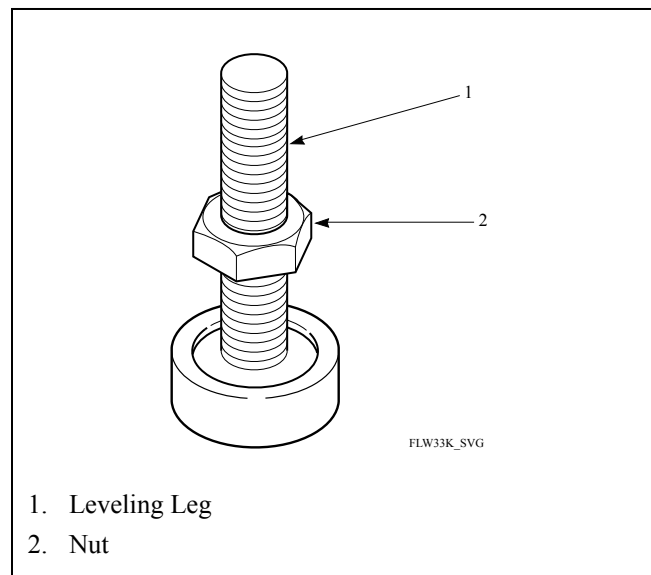

Figure 1
- b. Thread each nut down to within one inch of the bottom of each leveling leg. Leave room for a wrench to fit for adjusting leg and tightening nut. Refer to *Figure 1*.
7. Thread each nut down to within one inch of the bottom of each leveling leg. Leave room for a wrench to fit for adjusting leg and tightening nut. Refer to *Figure 1*.